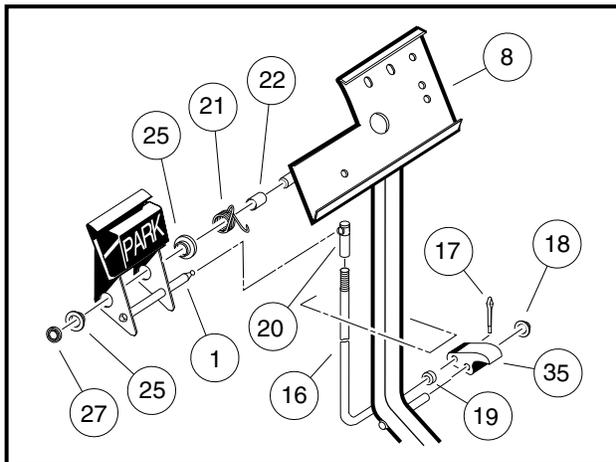
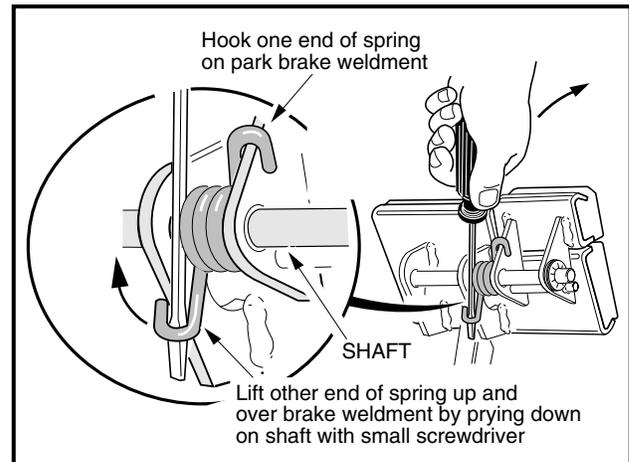

Figure 5-6 Park Brake Assembly
Figure 5-7 Torsion Spring Installation
**NOTE:** New push nuts (18) and (27) must be used when reassembling the park brake (**Figure 5-6, Page 5-5**).
- 3.2. To remove the park brake pedal (1), remove the push nut (27), disconnect the torsion spring (21) (**Figure 5-6, Page 5-5**) and slide the pedal off of the shaft. See preceding **NOTE**.
- From the bottom side of the floorboard, insert the park brake rod (16) through the brake pedal assembly opening as shown (**Figure 5-6, Page 5-5**). Then install the park brake pawl (35) onto the shaft on the brake pedal assembly (8) and also insert the park brake rod (16) into the park brake pawl.
- Install the push nut (18) onto the park brake pawl shaft.
- Install the spacer (22) and torsion spring (21) on the park brake pedal shaft on the brake pedal assembly.
- Install the two bushings (25) in the park brake pedal and position the park brake pedal on the shaft on the brake pedal assembly weldment (**Figure 5-6, Page 5-5**). Then attach the ends of the torsion spring to the park brake pedal and to the brake pedal weldment as shown (**Figure 5-7, Page 5-5**).
- Install the push nut (27) on the park brake pedal shaft (**Figure 5-6, Page 5-5**).
- Connect park brake rod (16) ball joint to ball stud on park brake pedal assembly.